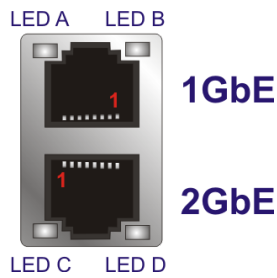

Figure 3-23: LAN Connector
- CN Pinouts:** See **Figure 3-23** and **Table 3-21**